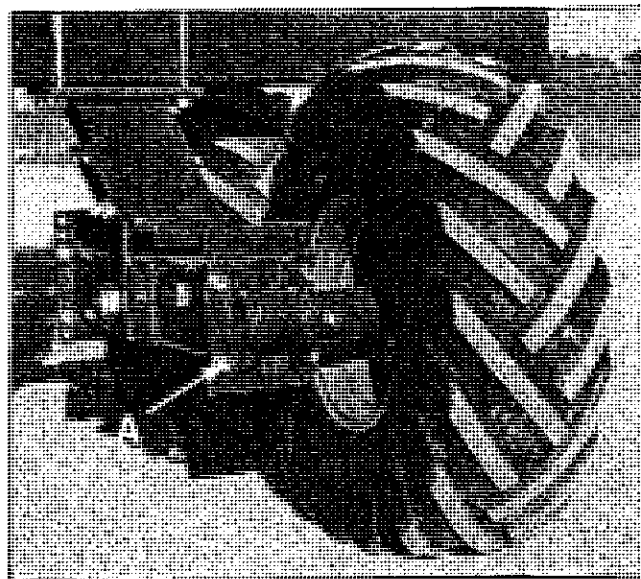
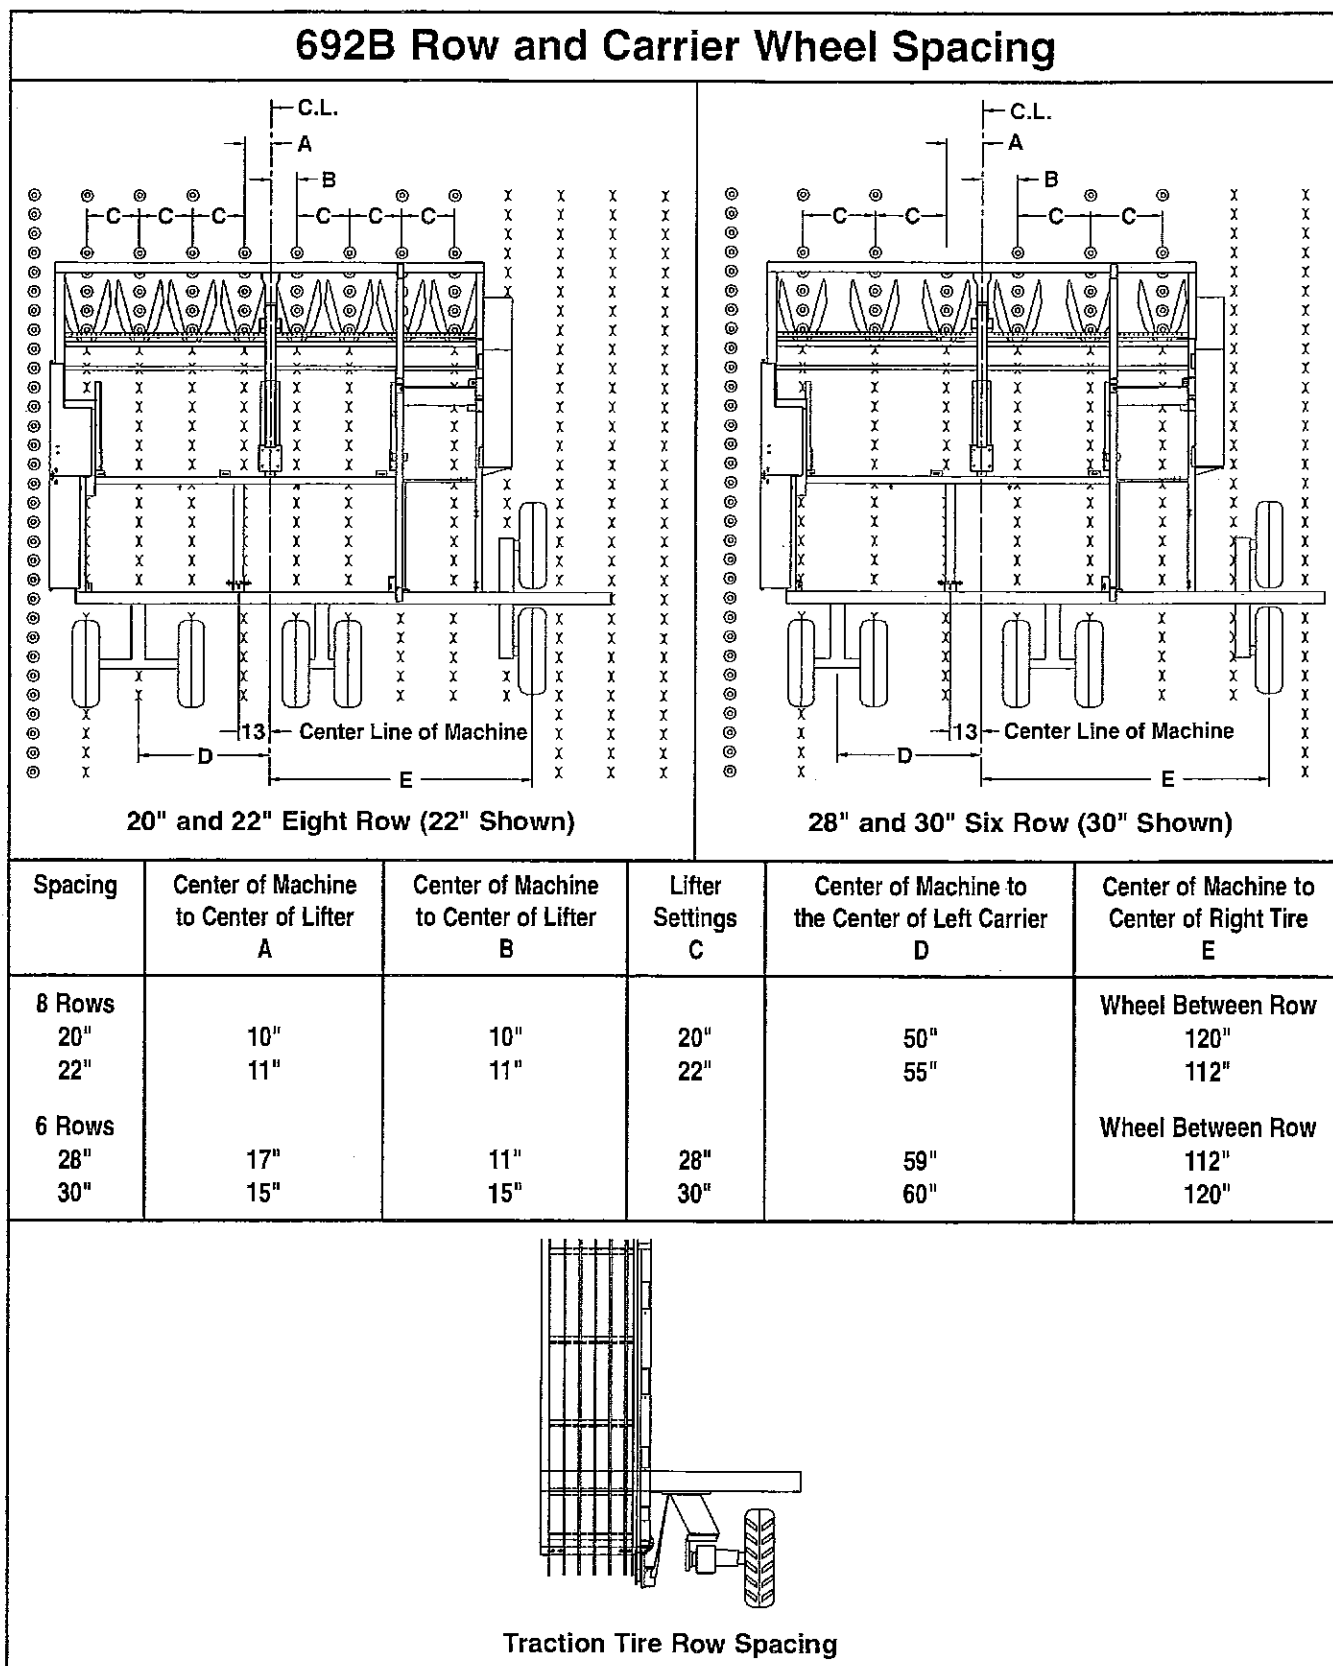

Figure 3.02: Walking Beam Carrier Wheel, (A) - Spindle Support Bracket.
Figure 3.03: Carrier Wheel Spacing.
Raise the rear frame bar with a jack or hoist. Use Figure 3.03 to determine settings for carrier wheels. It is recommended that the left oscillating carrier wheel be set to run in the far left dug row. The left wheels may also be set to run straddling the dug rows, depending on field conditions. If the wheel setting desired is different than shown add or subtract the appropriate half row spacing from the dimensions given.
Now position the right walking beam carrier wheels according to Figure 3.03. Adjust height of carrier wheels by moving spindle support bracket (A) (see Figure 3.02) to adjust height of walking beam so machine runs parallel to ground at digging depth.